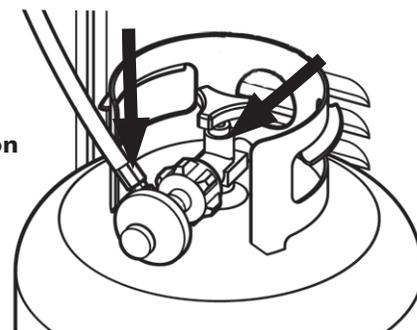

Fig. 3a
6. Check for leaks by brushing the soap solution on all gas valves, hose connections and fittings. (Shown by the heavy arrows in Fig. 3a, 4, 5 and 6a) Make sure you generously brush the locations with the soap solution, completely surrounding the connections and fittings.